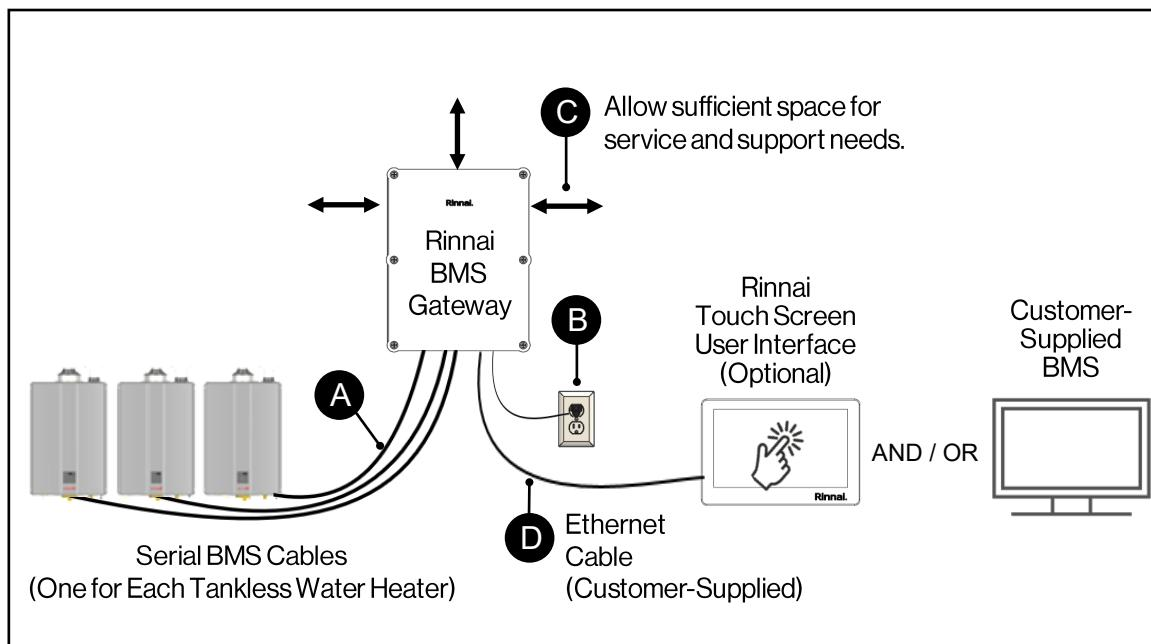

Fig 14. Installation Location Guidelines
- Choose a location close enough to allow the BMS Gateway to connect to each tankless water heater using the Serial BMS Cables (see “A” in Fig 14). Each Serial BMS Cable is 10 ft. (3 m).
- Ensure the location has provisions for power supply to the BMS Gateway enclosure (see “B” in Fig 14). The provided three-prong 120V AC power cord is 6 ft. (2 m).
- Ensure that adequate space surrounds all sides (including the front panel) of the BMS Gateway for service and support needs. No minimum space clearances are required (see “C” in Fig 14).
- Consider the length of other cables (if applicable to your configuration), such as Ethernet cables, network cables, RS-485 2-wire cable, etc. (see “D” in Fig 14).
Fig 14 above is for illustrative purposes only and is a sample configuration. The components of your configuration may differ from the illustration.